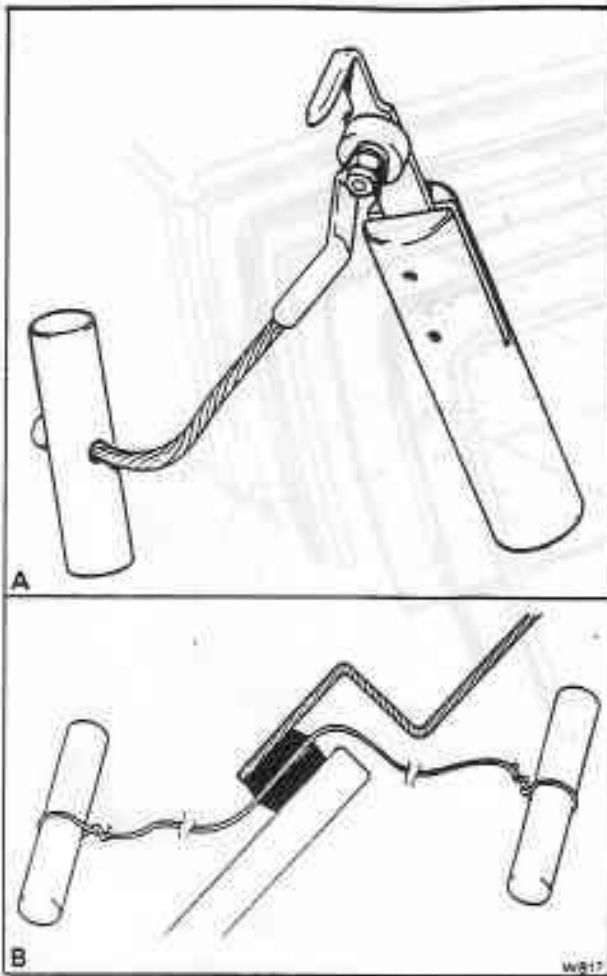

Fig. S10-6 Windscreen removal tools
20. Before the windscreen can be removed, use either of the tools shown in figure S10-6 to cut through the Butyl Strip bonding the windscreen to the aperture. Always wear safety glasses and gloves when carrying out this operation.
c. Attach a small piece of wood to each end of the wire to act as handles (see fig. S10-6).